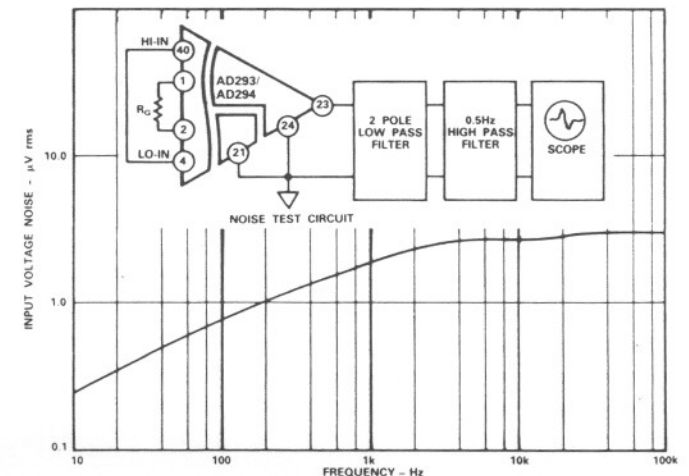

Figure 8. Typical AD293/AD294 - Input Noise vs.
**Input Voltage Noise:** Voltage noise, referred to input, is dependent on gain and bandwidth as illustrated in Figure 8. RMS voltage noise in a bandwidth from 10Hz to 100kHz is shown on the horizontal axis. The peak-to-peak value is derived by multiplying the rms value @  $F = 100Hz$  ( $0.75\mu V$  rms) by 6.6.